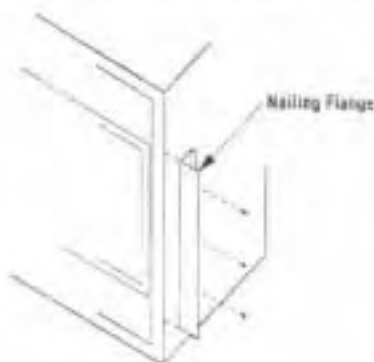

Figure 13
Step 3. Remove the nailing flanges from the lower control compartment and install in place with three (3) screws each. Align with the three holes on each side of the appliance (refer to Figure 13).